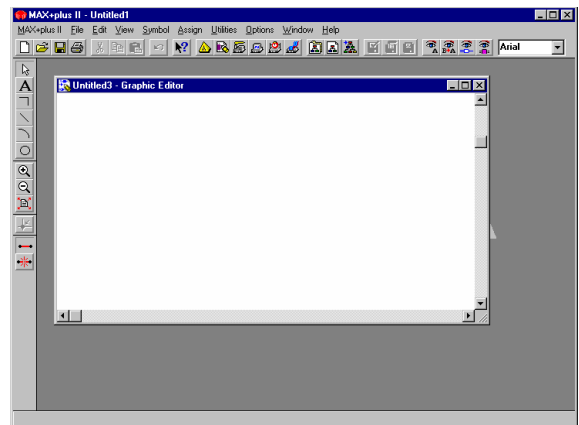

Figure 2
1. From the leftmost menu, called simply **Max+plus II**, select **Graphic Editor**. This will open a blank Graphic Editor window as shown in Figure 2. Make sure this is the active window; you may maximize both the main window and the Graphic Editor window to get more workspace. Move the cursor along the buttons across the top and on the left side and read the descriptions that appear at the bottom of the main window.